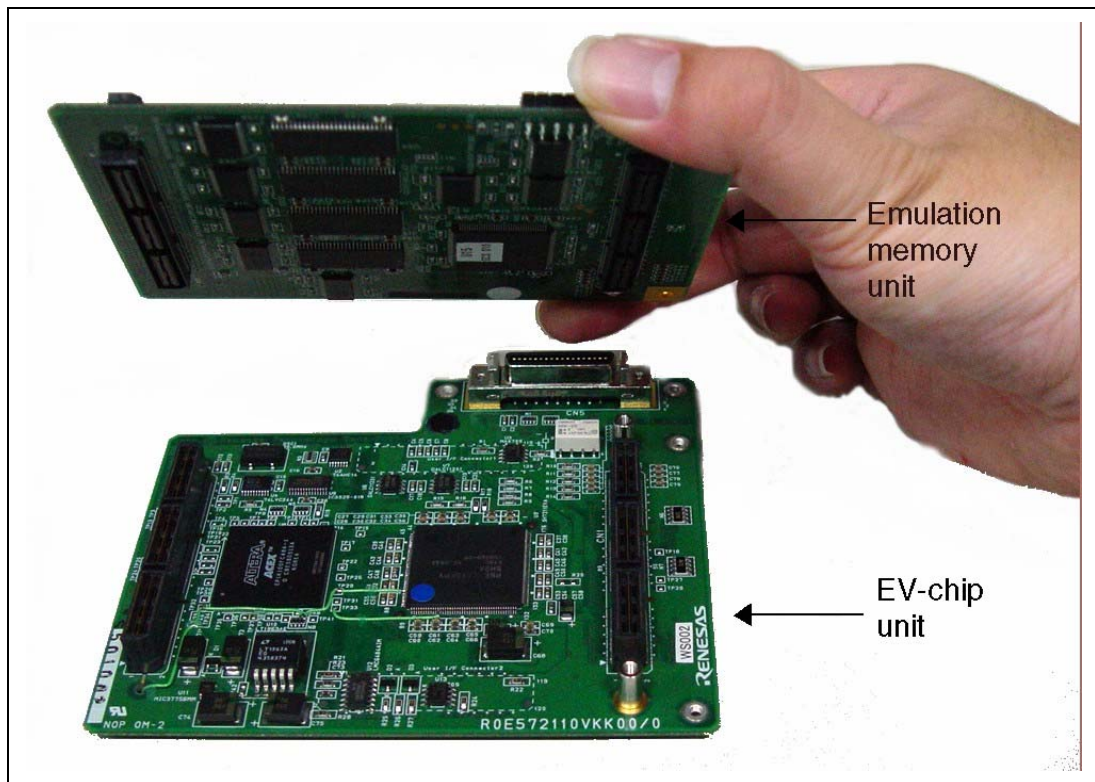

Figure 2.6 Connecting the Emulation Memory Unit to the EV-chip Unit
- When the emulation memory unit is used with the EV-chip unit, connect the emulation memory unit to the EV-chip unit (figure 2.6).